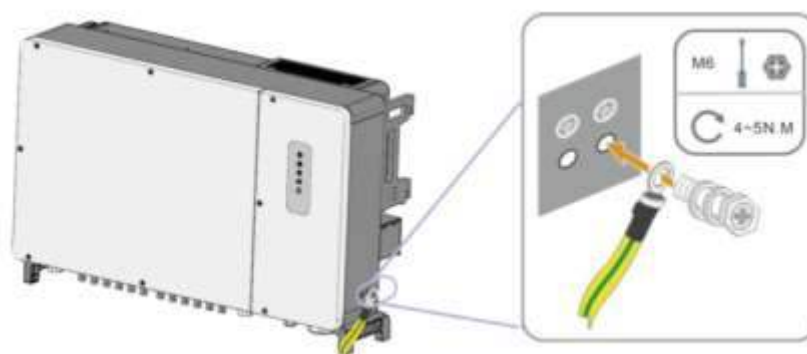

Fig. 4-24 Remove the screw on the grounding terminal
- 2) Remove the screw on the grounding terminal and fasten the cable with a screwdriver (Fig. 4-24).